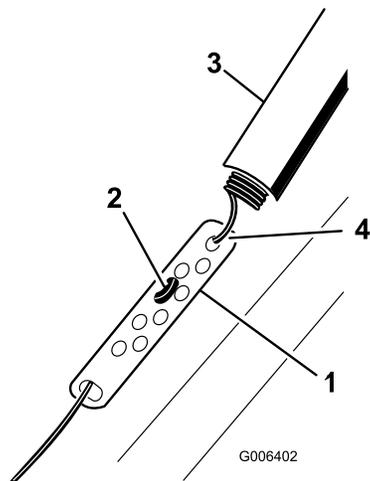

Figure 10
- Slide up the spring cover and unhook the spring from the adjuster link (Figure 10).
- Move the Z-fitting to a higher or lower hole on the adjuster link as needed to obtain the 1/16-inch to 1/8-inch (2 mm to 3 mm) gap between the control bar and the handle (Figure 10).